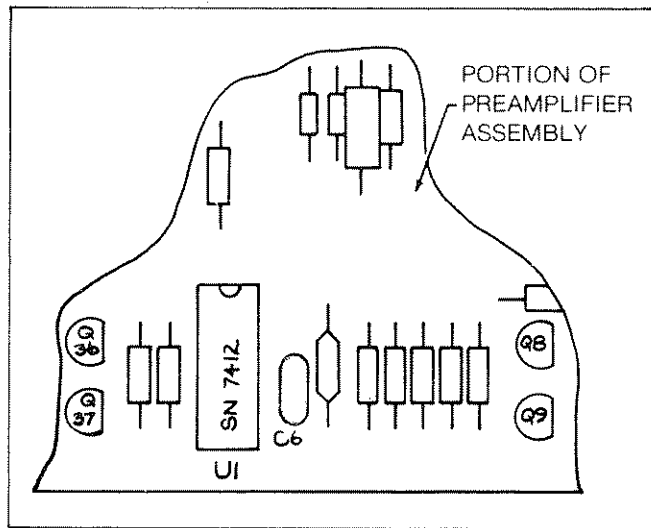

Figure 2. Location of C6 on Preamplifier Assembly
2. With reference to Figure 2, remove the existing C6 (330 pF) capacitor and replace with one of 1500 pF, Fluke part number 148326.